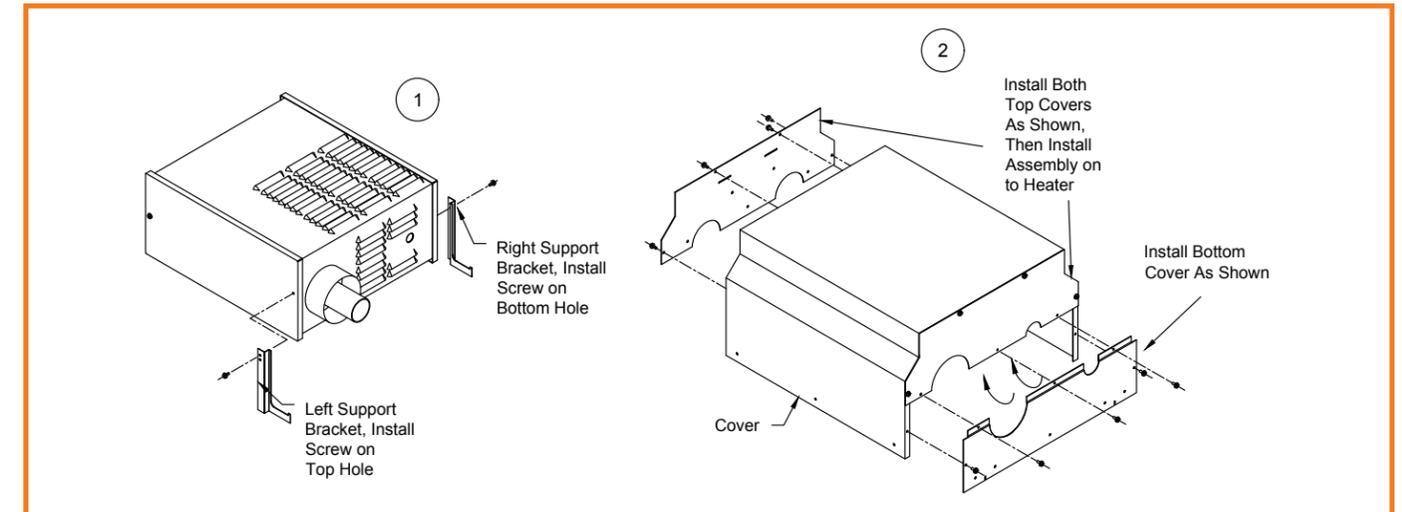

Figure 6: Cover Installation Sequence Steps 1 and 2
1. Install support brackets on to heater covers as shown in step 1 in Figure 6.
2. Preassembled the cover and its top covers and bottom cover as shown in step 2 in Figure 6.